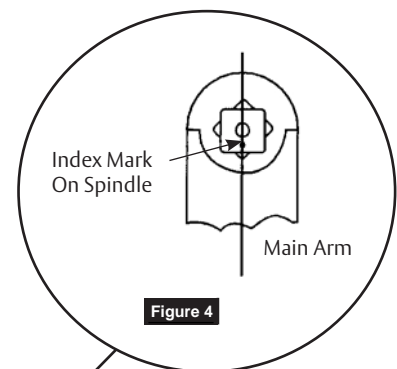

Figure 4
2. Assemble main arm to closer with index mark on spindle. Align with axis of arm. Use washer and screw. (Figure 4)
1. Assemble main arm to closer with index mark on spindle. Align with axis of arm. Use washer and screw. (Figure 4)